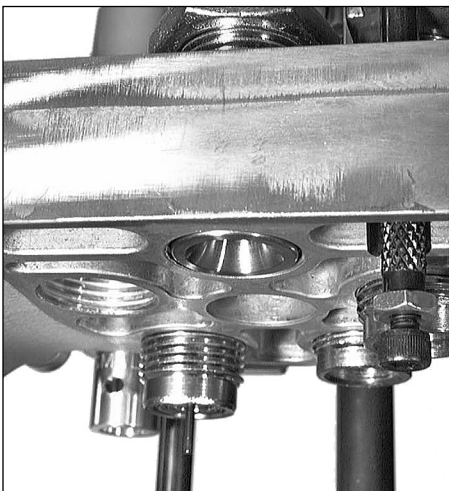

FIG 66
1. Take the seating die from the die box and screw it into Station 4. Screw the die down until the bottom of the die is flush with the bottom of the toolhead FIG 66. Note: At this point the die will not be screwed down far enough to begin seating the bullet, but it will give you a place to start.